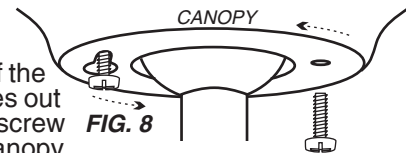

FIG. 8
- A. Now is the time to remove the protective ring from the inside edge of the canopy - cut away with scissors. With the motor in place and the wires out of the way, slide the canopy up to the hanging bracket. The canopy screw in the bracket will come through the large end of the key slot in the canopy. Fig. 8. Turn the canopy slightly, counter-clockwise, to hold in place, and insert remaining canopy screw. Tighten the screws.